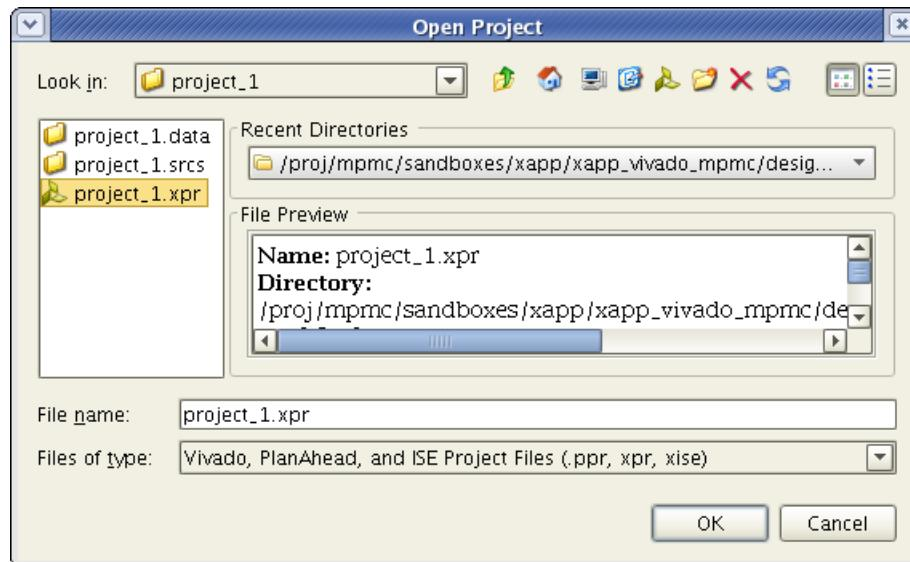

Figure 3: Browse Project Dialog Box
6. Select **Browse Projects**, and choose <design_dir>/vivado/project_1/project_1.xpr (Figure 3).